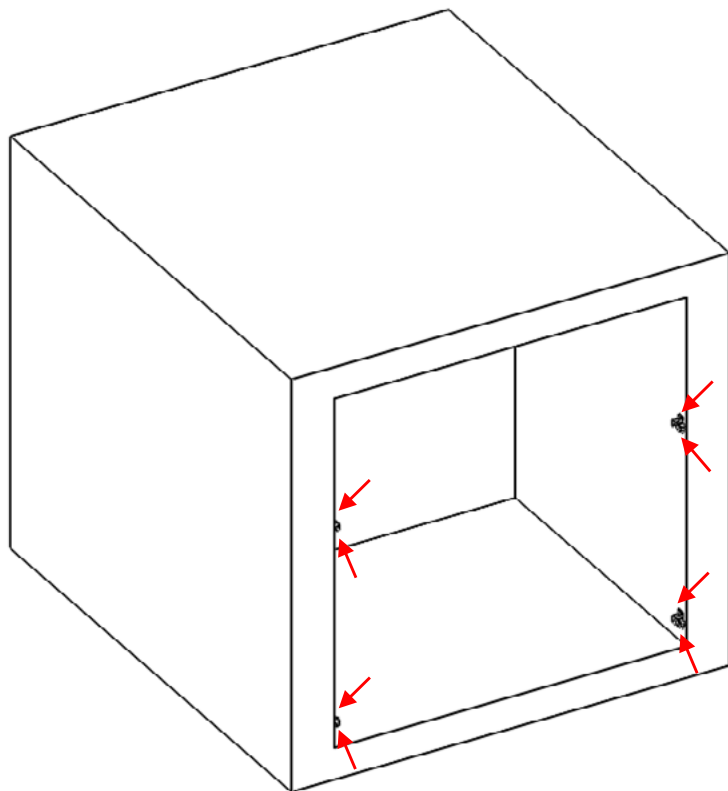
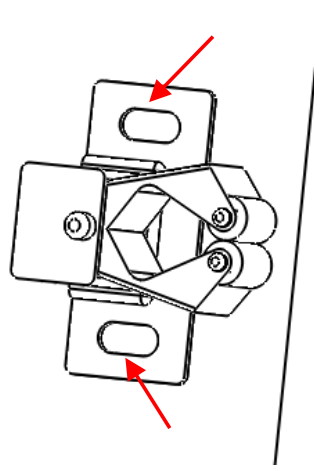

Figure 8
Figure 9
4. Next, slide the outer trim into the cabinet cutout and use a marker or pencil to mark where the buckles line up. Then, remove the trim and secure the four buckle seats into the cabinet using the other eight #2 screws (see Figure 8). Make sure the clamp of the bucket seats are facing toward you (see Figure 9).